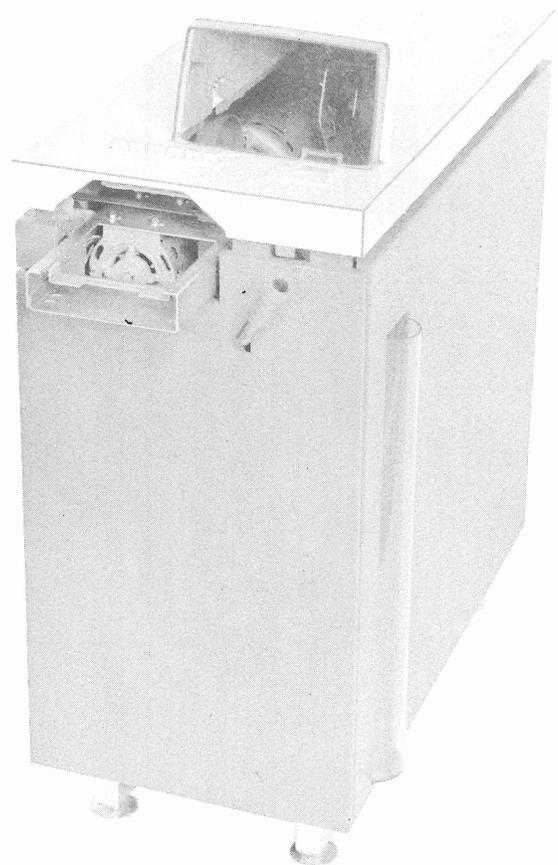

Figure 1 - Tape Cabinet
1.01 This section provides lubrication procedures for the 37 tape cabinet (Figure 1).
1.03 References made to left or right and front or rear apply to the cabinet in its normal operating position as viewed by the operator facing the cabinet (Figure 1).